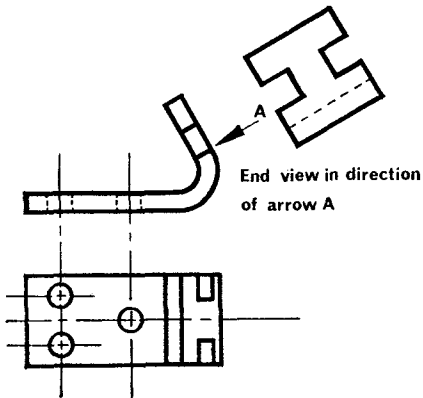

Fig. 9. Auxiliary view
11. If a part is complicated an auxiliary view may be given (Fig. 9). This type of view is mainly used to show projected views of inclined faces. It is drawn directly in line with an arrow which represents the direction in which the object is viewed.